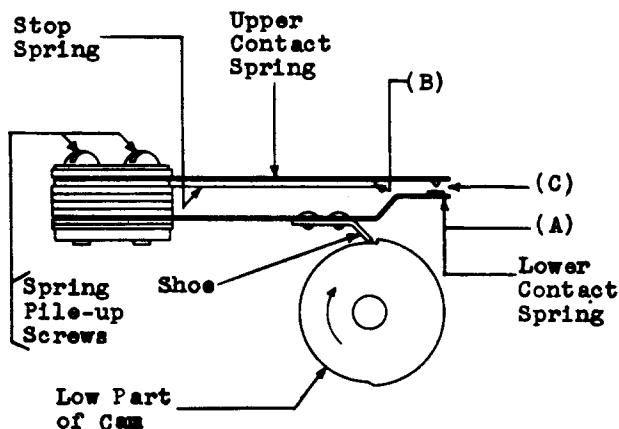

Fig. 5 — High-speed Cam Assembly — Method of Shoe Pressure and Contact Separation
**2.13 Pressure of Cam Shoe on Cam:** Fig. 5(A)—
Fig. 5(B) — With the shoe of the lower contact spring on the *low* part of the cam, the upper contact spring shall rest on the stop spring, at least at the free end of the stop spring.
2.16 **Contact Separation:** Fig. 5(C) — With the shoe of the lower contact spring on the *low* part of the cam, the separation between the contacts of the upper and lower springs shall be